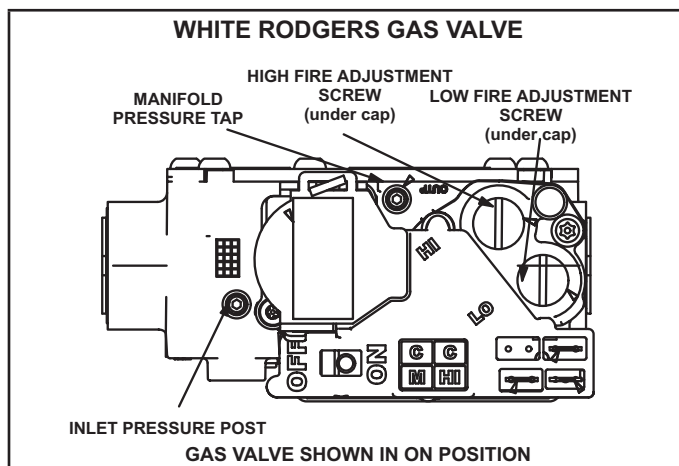

FIGURE 19
**EL280UHE(X) units are equipped with a hot surface ignition system. Do not attempt to light manually.**
- 6 - Turn switch on gas valve to OFF. Do not force. See FIGURE 19.
- 8 - Move switch on gas valve to ON. Do not force. See FIGURE 19.
- 1 - Connect test gauge to manifold pressure post (FIGURE 19) on gas valve.